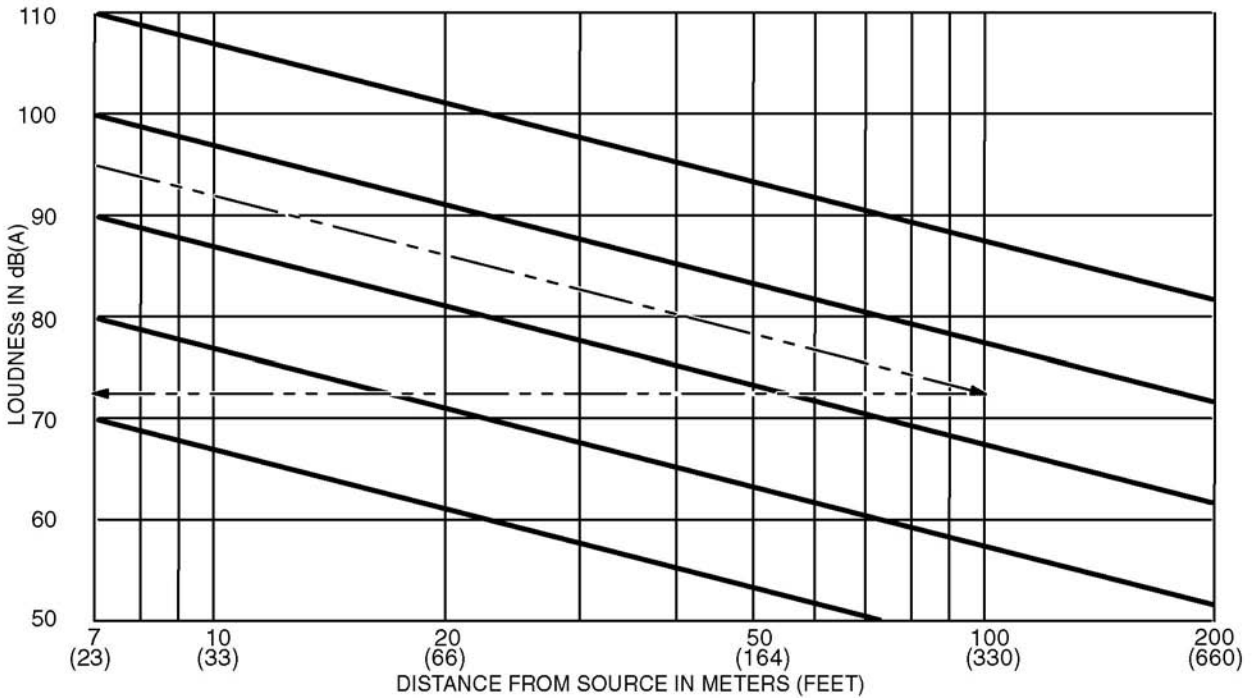

FIGURE 120. DECREASE IN LOUDNESS AS DISTANCE INCREASES (FREE FIELD)
Figure 120 on page 229 can be used as an alternative to the formula for estimating the sound level at various distances, such as to the property line. For example, as shown by the dashed arrows, if the noise rating on the recommended generator set Specification Sheet is 95 dB(A) (at 7 meters), the noise level 100 meters away will be approximately 72 dB(A).
To use Figure 120 on page 229, draw a line parallel to the slanted lines from the known dB(A) value on the vertical scale line to the vertical line for the specified distance. Then draw a horizontal line back to the vertical scale line and read the new dB(A) value.